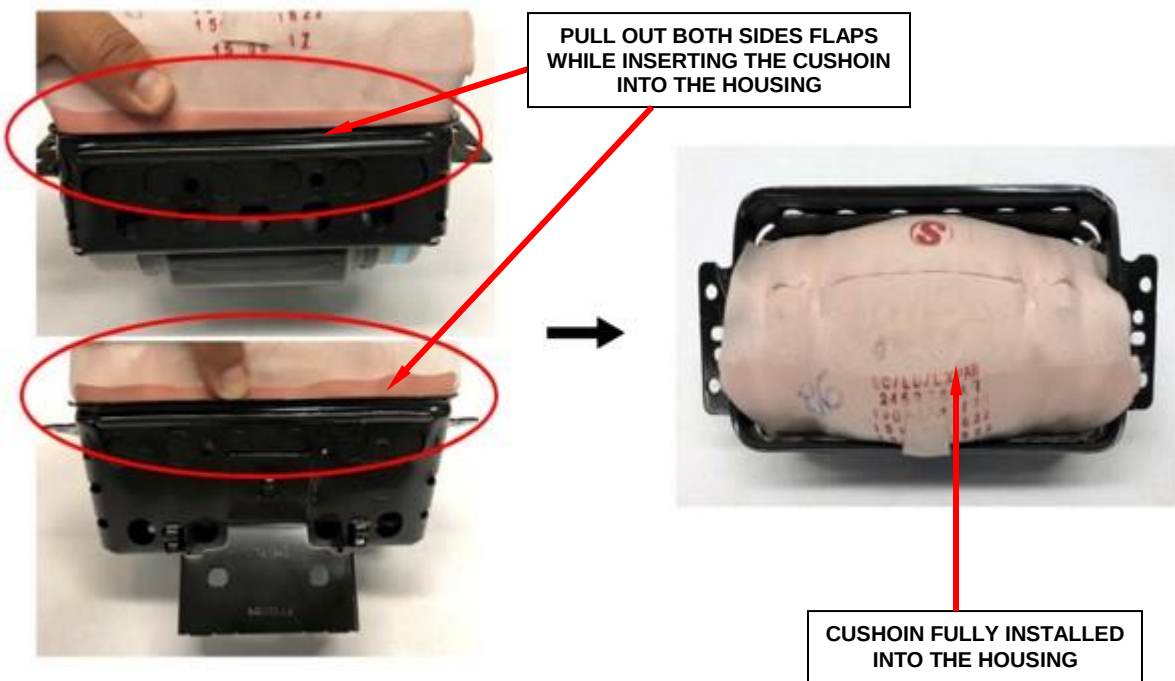

Figure 104 – Side Flaps Must Be Held Out
- i. Place the fabric gasket, glossy side up, onto cushion. Mistake-proof tab should be aligned to the tab on the cushion (Figure 104).